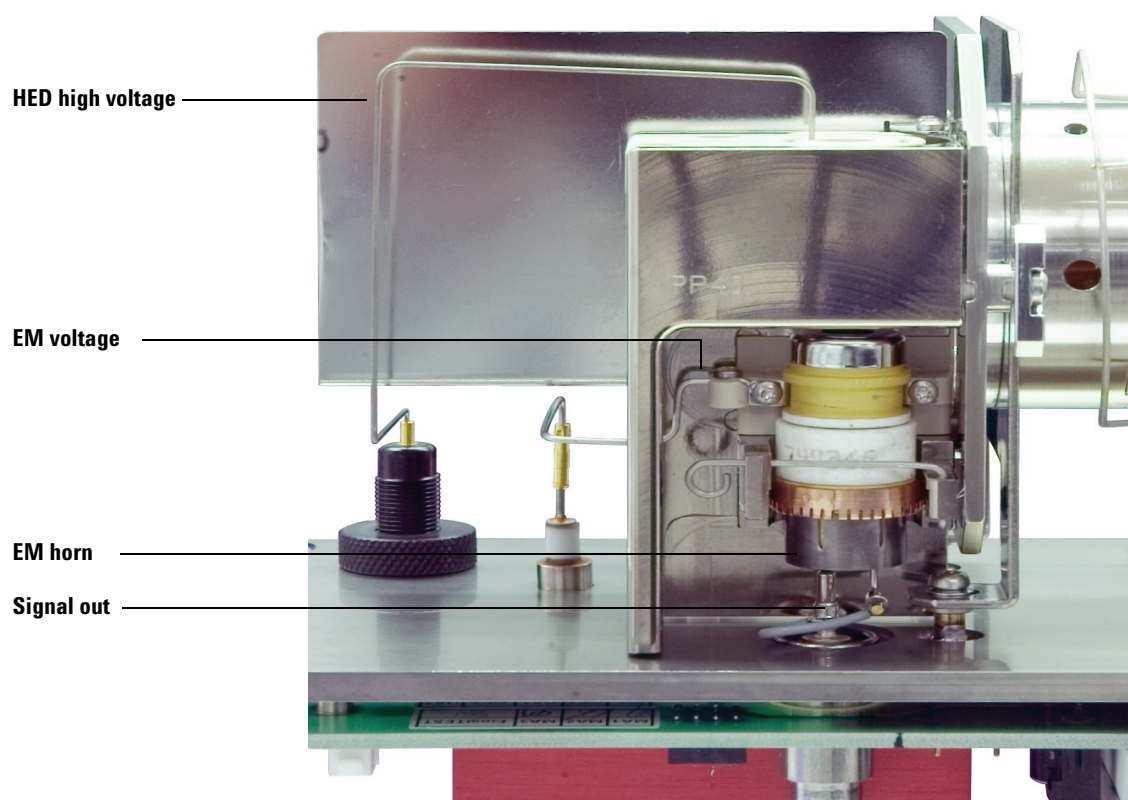

Figure 33 The detector
The detector (Figure 33) in the MSD analyzer is a high energy conversion dynode (HED) coupled to an electron multiplier (EM). The detector is located at the exit end of the quadrupole mass filter. It receives the ions that have passed through the mass filter. The detector generates an electronic signal proportional to the number of ions striking it. The detector has three main components: the detector ion focus, the HED and the EM horn.